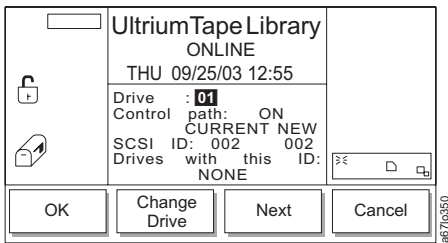

Figure 4-106. Drive SCSI Dialog for Drives
3. Press the button below the **SCSI** softkey. The Drive SCSI Dialog displays (see Figure 4-106). The screen may vary, depending on whether your library has the Multi-Path feature.